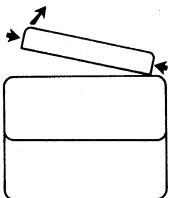

Figure 7. Removal of EC71D/18S Battery Cover
4. Install a 9V alkaline battery (not provided). Remove battery cover (see Figure 7 or 8). Snap battery into battery clip. Replace battery cover.